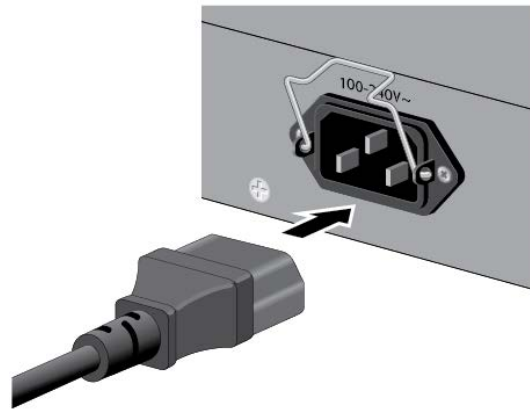
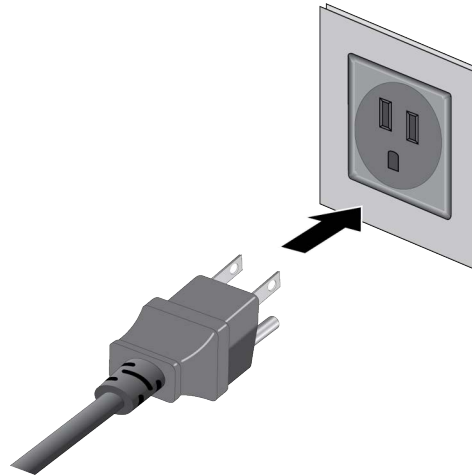

Figure 88. Plugging in the AC Power Cord to the Switch
Figure 90. Plugging in the AC Power Cord to an AC Source
2. Power on the switch you want assigned ID number 1 by connecting its power cord to the AC connector on the back panel and. Refer to Figure 88.
Connect the power cords to the connectors on the back panels and to the appropriate power sources, as shown in Figure 88 on page 165 and Figure 90 on page 166. Refer to “Power Specifications” on page 221 for the power specifications of the switches.